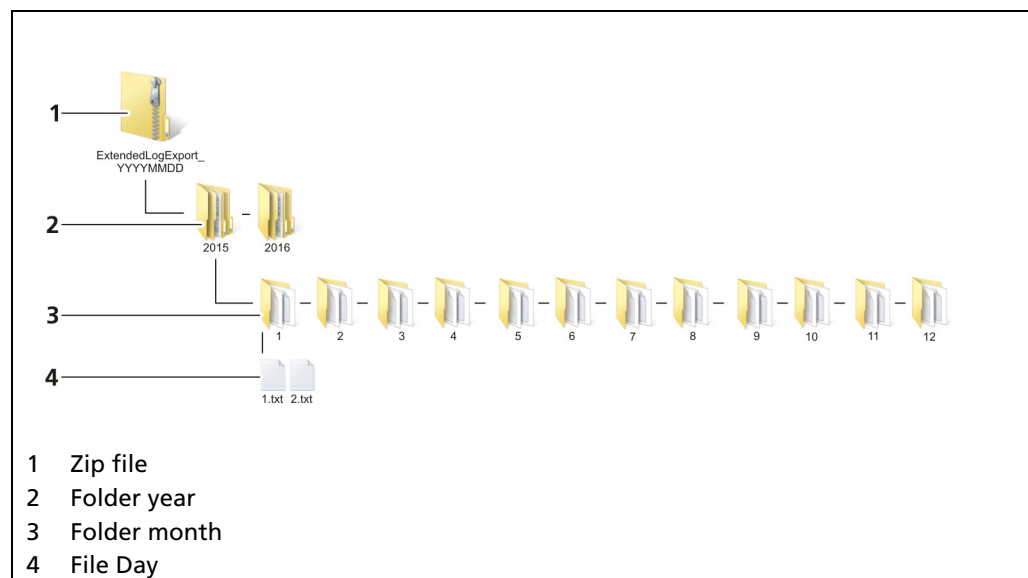

Fig. 111 Data structure
1. Click on the button <Stop> (Fig. 111, item 2) to stop the data log process.
2. Click on the input field "Log interval" (Fig. 111, item 1) and enter the time in seconds.
4. Click on the button <Start> (Fig. 111, item 5) to start the data log process.
3. Click on the button <Export> (Fig. 111, item 6).